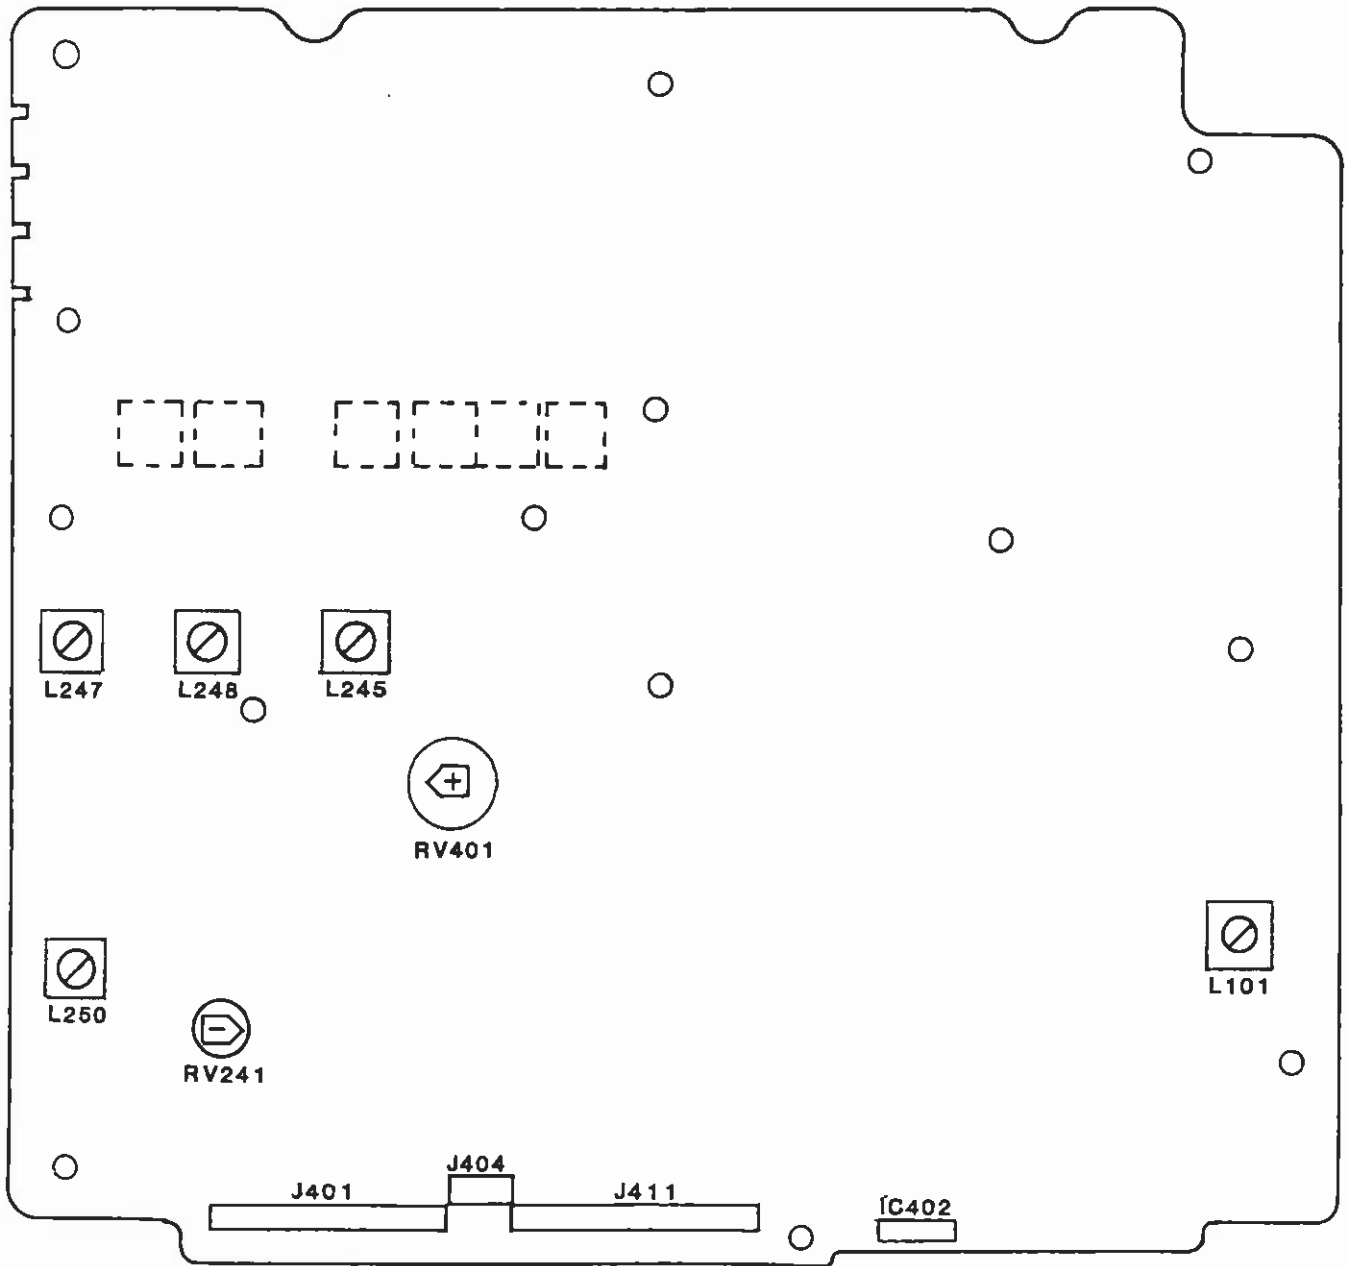

Figure 4 - 1b - TR-1517 Board
2. Remove the black screw on the back of the radio, near Antenna Jack J501 (see Figure 4 - 2a).